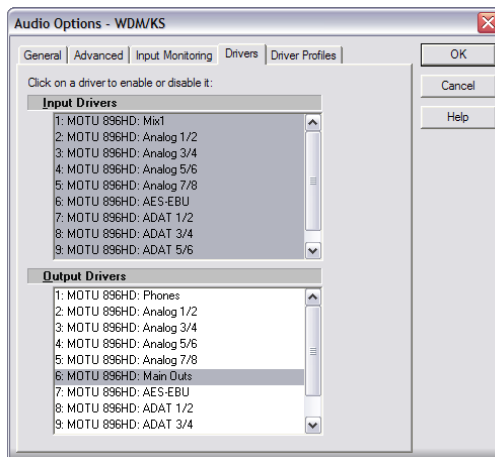

Figure 7-2: Activating the MOTU FireWire Audio WDM driver in SONAR by highlighting 896HD inputs and outputs.
- 3 Highlight the 896HD inputs and outputs that you wish to use and unhighlight the ones you don’t as shown in Figure 7-2.
Once you've enabled the 896HD inputs and outputs in the Drivers tab of the Audio Options window (Figure 7-2 on page 55), 896HD audio inputs and outputs will appear in Sonar's input/output menus, and you can set them up and use them as any standard audio input and output. If you don't see the optical inputs and/or outputs, check the MOTU FireWire Audio Console to make sure they are turned on and set to the format you need. If you don't plan to use the optical input or output, turn it off to conserve computer bandwidth.